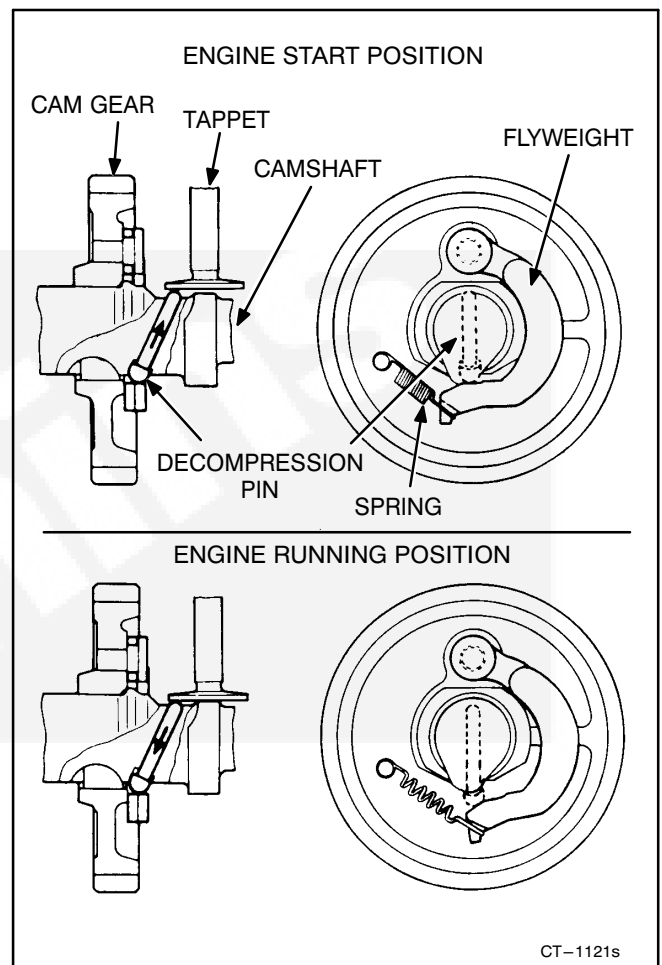

FIGURE 10-31. COMPRESSION RELEASE SYSTEM
1. As the engine is started (Figure 10-31), a spring holds in the flyweight which in turn pushes a decompression pin upward.